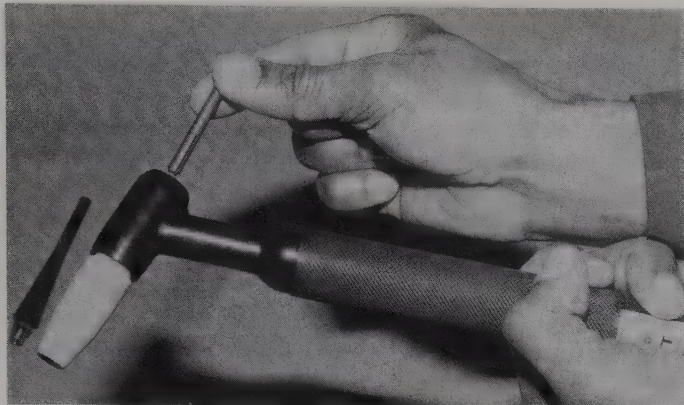

Fig. 22-4. A collet being inserted into the body of a GTAW torch. Notice the end cap in the background.
2. Slide the collet into the collet body from the top of the torch, as shown in Fig. 22-4.